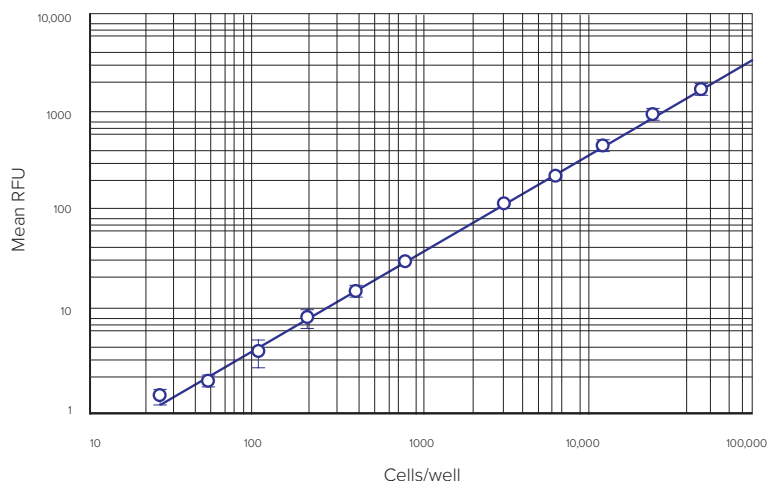

Figure 2. Cell-based standard curve. Cell densities (from 25 to 50,000 cells per well) were assayed.
Step 2: A standard curve is automatically plotted by the software, as long as wells were assigned to the Standards group in the Template Editor. Choose the appropriate curve fit from the drop-down Curve Fit menu in the Graph section. When plotting the standard curve for this application note, we used a log-log curve fit (Figure 2). The quadratic curve fit may also be suitable.
A cell-based standard curve, set up as described above, is shown in Figure 2. A log-log curve fit was used when graphing the standard curve over the entire dynamic range of the assay. Results shown are from the SpectraMax M5 microplate reader, but similar results are obtained with other Molecular Devices readers with fluorescence detection mode (data not shown).